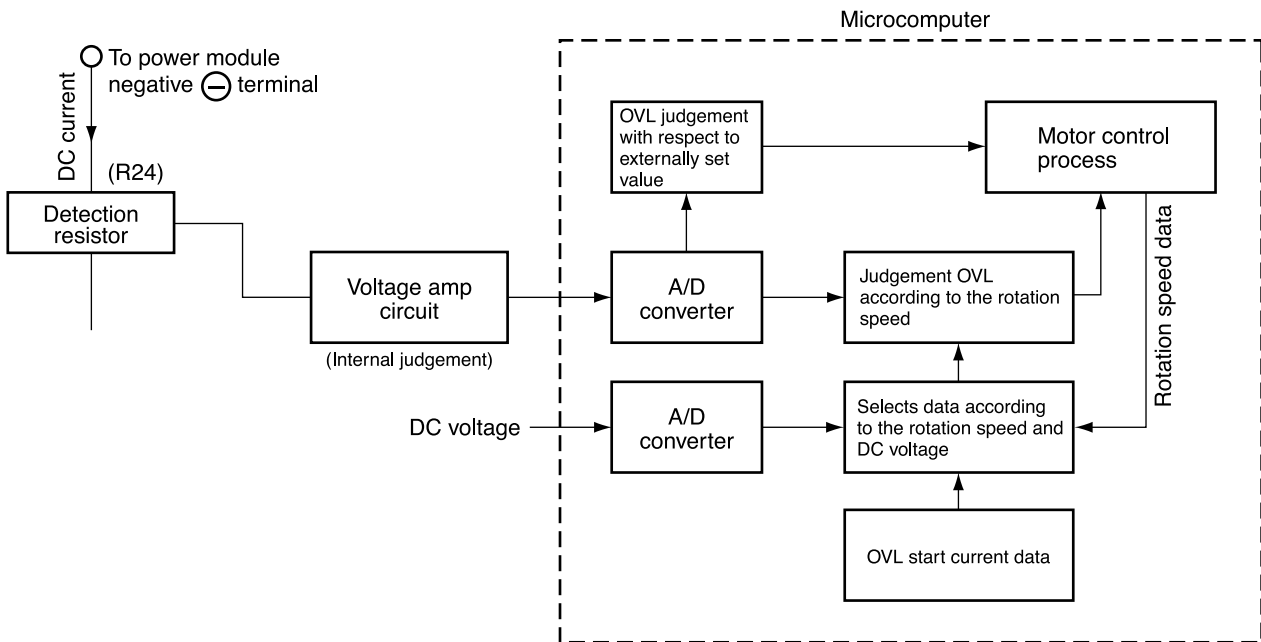
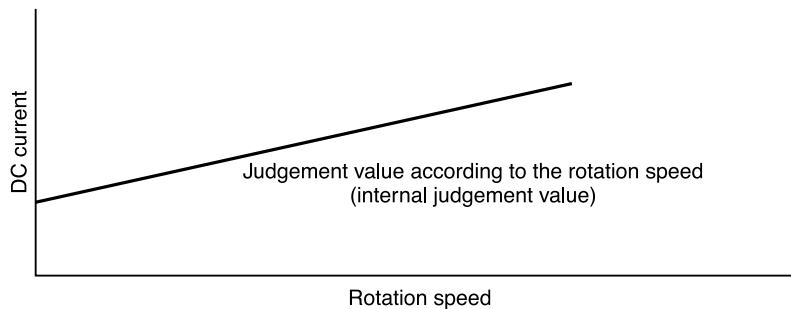

Fig. 8-4 Overload Control System Configuration
Fig. 8-5
(2) Overload control circuit (OVL control circuit)
- Fig. 8-4 shows the overload control system configuration and Fig. 8-5 is a characteristic diagram of overload judgement values. There are two judgement methods-external judgement which compares the externally set value with the DC current value regardless of the rotation speed and internal judgement which compares the set value that varies according to the rotation speed programmed in the microcomputer software with the DC current value.